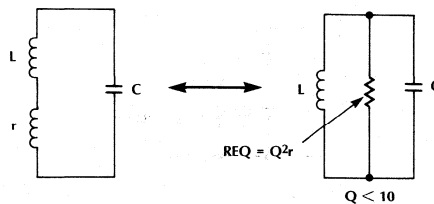

Figure 5.
1. In Figure 5, it is seen that an RLC circuit with series loss can be represented by a circuit with parallel loss (resistance). This applies when the circuit Q is high (>10).